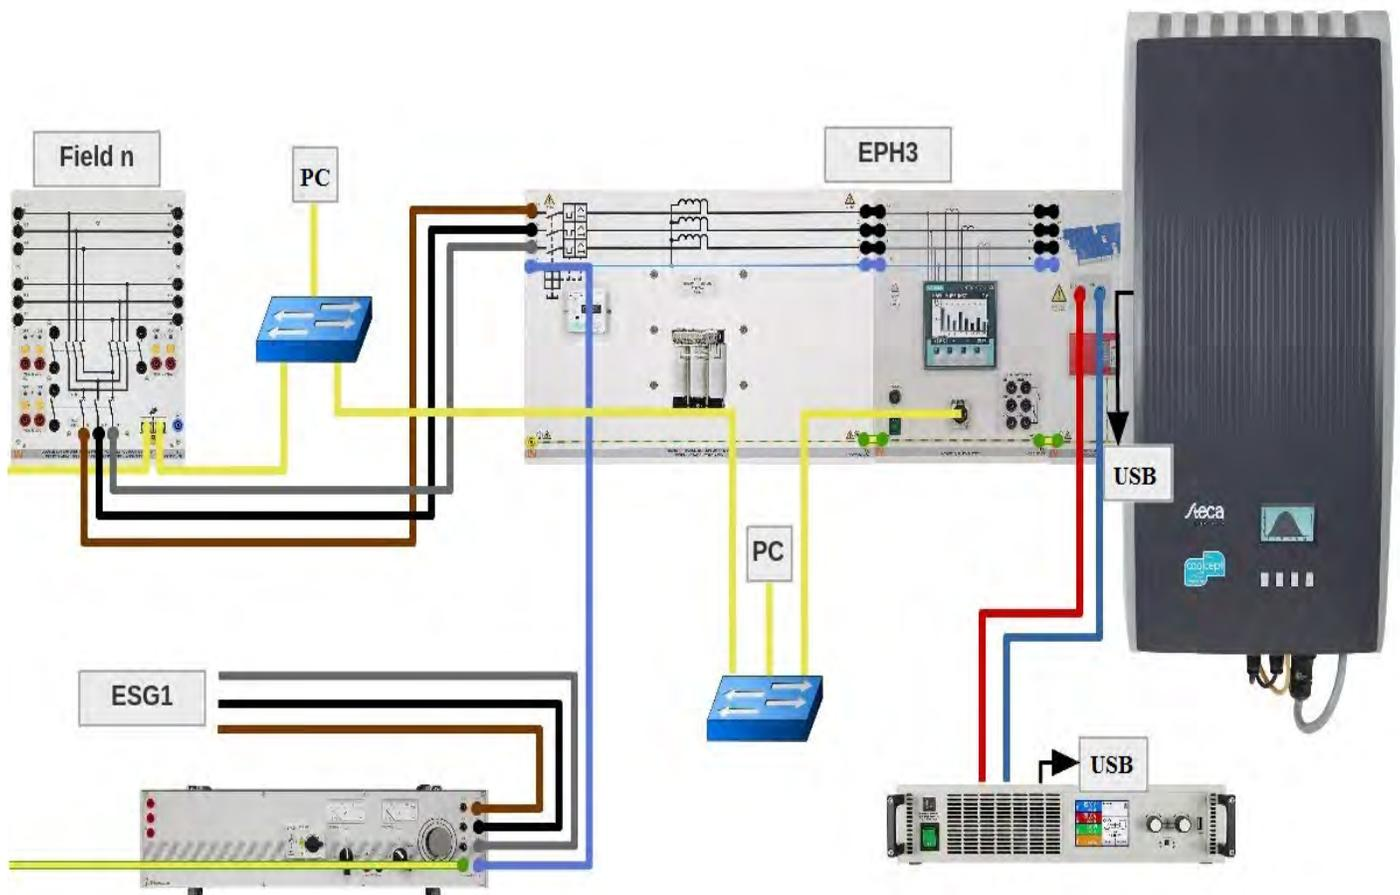

Figure 24:
The PV inverter is supplied via the grid and not via a separate grid connection. According to the experiment setup in Figure 24, the grid connection must first be established via the busbars. Then the PV inverter switches on and a connection with SCADA is possible (optional).
1. Assemble the circuit in accordance with the layout and wiring diagram of Figure 24.